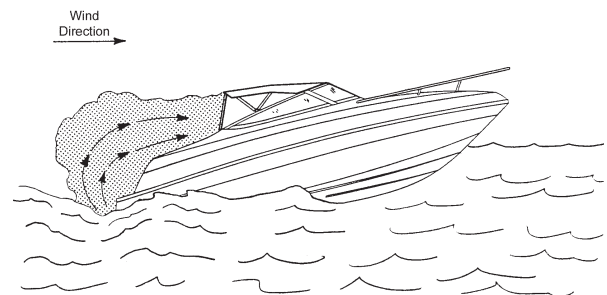

Figure A12: Operating at Slow Speed with Following Wind
5. Operating a boat at slow speeds with a following wind should be avoided. Consider changing direction, adjusting speed, or both. See Figure A12.